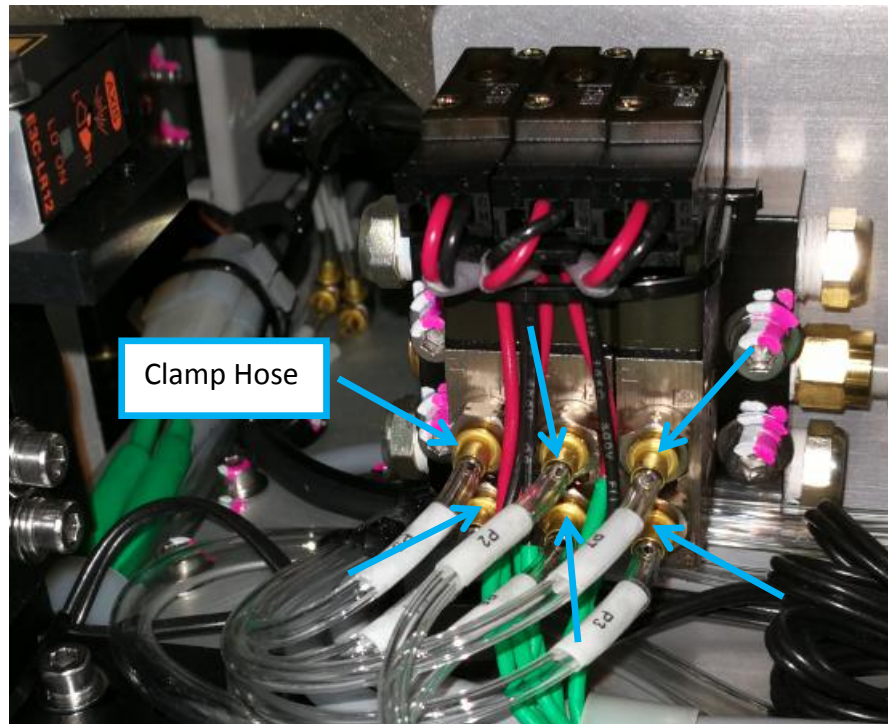

Figure 5 Clamp Hose & Removal
6. Remove 6 x Clamp Hose as below Figure 5. Remove tubing.